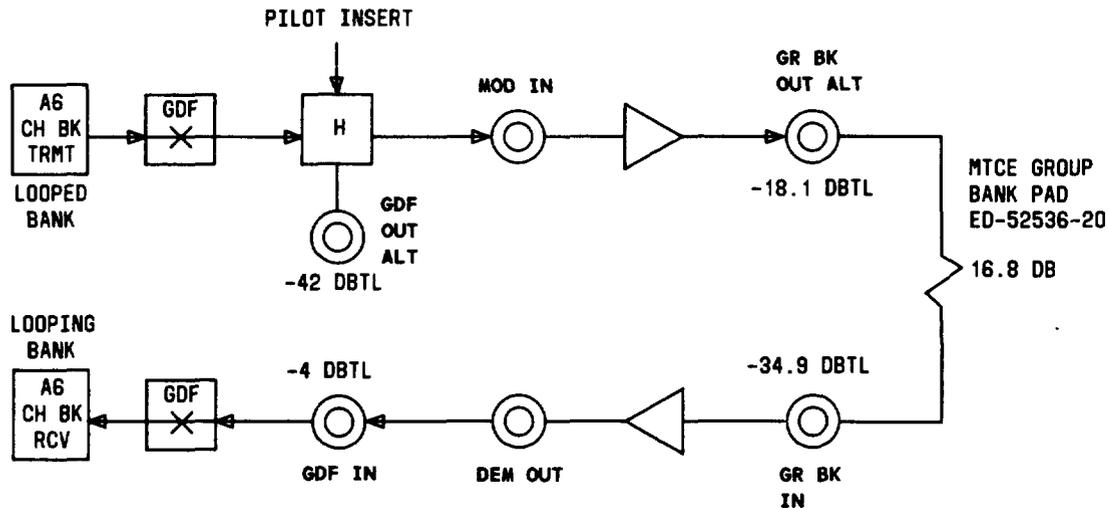
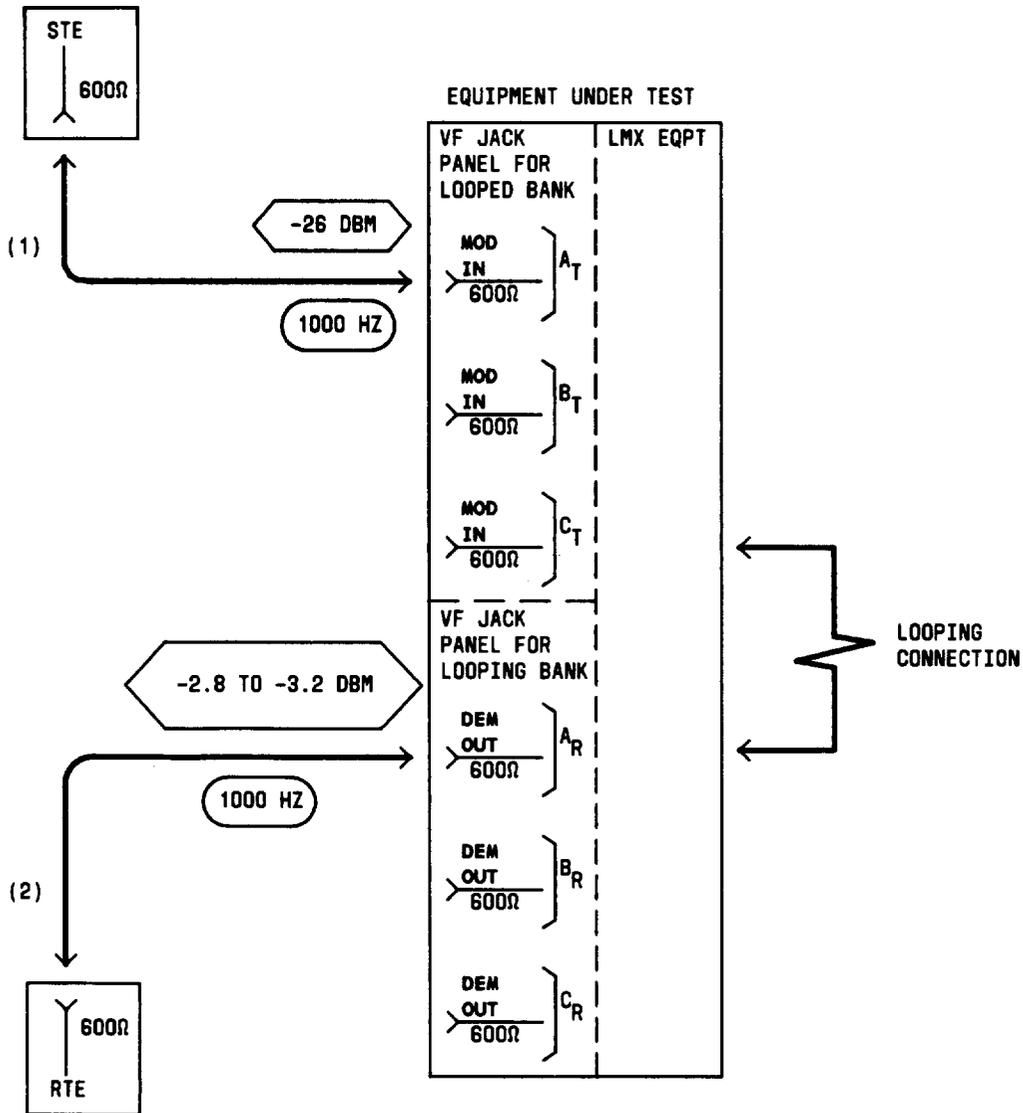

Fig. 13—Typical Channel Bank Equal-Level Cross-Looping Arrangement—LMX-3
Fig. 14—Patching Diagram—Crosstalk Test—Equal-Level Looping—Channel Gain Verification (1000 Hz)
<p>Note 1: See Fig. 11 and ensure that all required looping and test connections are understood before proceeding with this test.</p> <p>Note 2: The transmitting channel (in looped bank) is designated BT and is the disturbing channel in which tone is sent. Adjacent receiving channels (in looping bank) are designated AR and CR and are the disturbed channels in which crosstalk is measured.</p> <p>Note 3: The gain of the transmitting and receiving group equipment should be adjusted as prescribed in applicable sections of the 356 Division.</p> <p>Note 4: The STE and RTE should be calibrated as a test group prior to use at each test frequency.</p> <p>Note 5: If the channel bank under test is equipped with the CFA unit, be sure that the RCV FAIL lamp on the CFA unit is extinguished.</p> <p>Preparation</p> <p>1 Adjust the RTE for a measurement of -3 dBm.</p> <p>2 Adjust the STE as follows:</p> <p style="padding-left: 40px;">Impedance: 600 ohms balanced</p> <p style="padding-left: 40px;">Frequency: 1000 Hz</p> <p style="padding-left: 40px;">Power: -26.0 dBm</p> <p>3 At LMX-2 equipment, make looping connections as shown in Fig. 12(a) or 12(b), as applicable.</p> <p>4 At LMX-3 equipment, make looping connections as shown in Fig. 13.</p> <p>5 Connect the STE to the MOD IN jack for Channel 1 of the looped channel bank under test [Test A, Table E and patch (1), Fig. 14].</p> <p>6 Connect the RTE to the DEM OUT jack for the looping bank for the channel under test [Test A, Table E and patch (2), Fig. 14].</p> <p>7 Observe that the signal power at the DEM OUT jack is -2.8 to -3.2 dBm.</p>
- 8 Remove patches (1) and (2), Fig. 14.